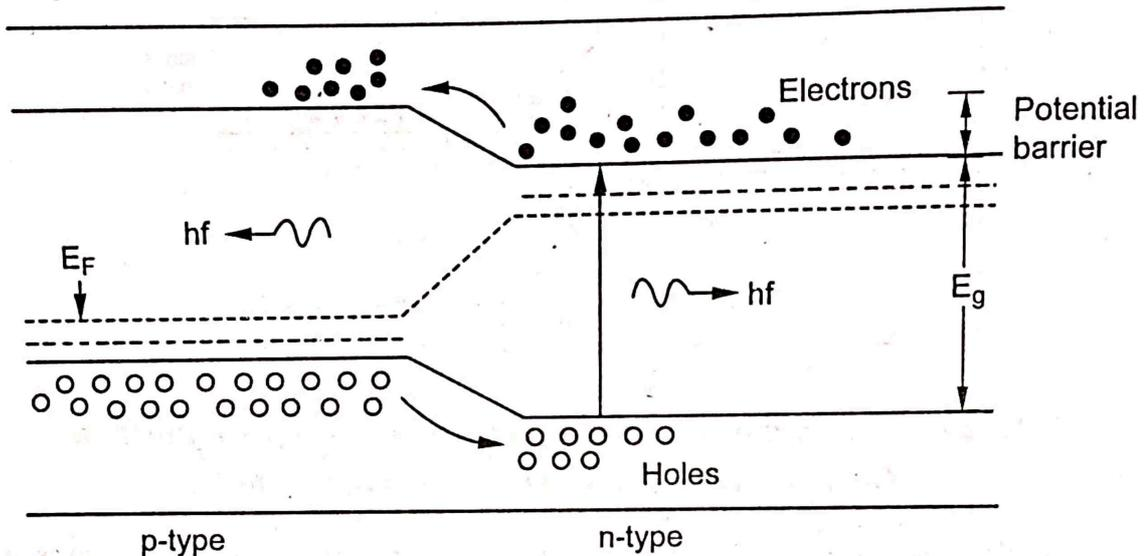

**Fig 5.12 (a) The impurities and charge carriers at a  $p - n$  junction.
- ♣ The *p – n junction diode* is formed by creating adjoining *p – and n – type semiconductor layers in a single crystal*, as shown in figure 5.12 (a). A *thin depletion region (or) layer* is formed at the junction through *carrier recombination* which effectively leaves it free of mobile charge carriers (*both electrons and holes*).
- ♣ This establishes a potential barrier between the  $p -$  and  $n -$  type regions which restricts the inter diffusion of majority carriers from their respective regions, as illustrated in figure 5.12 (b).
- ♣ In the absence of an externally applied voltage, no current flows as the potential barrier that prevents the net flow of carriers from one region to another. When the junction is in this equilibrium state the Fermi level for the  $p -$  and  $n -$  type semiconductor is the same as shown in figure 5.12 (b).